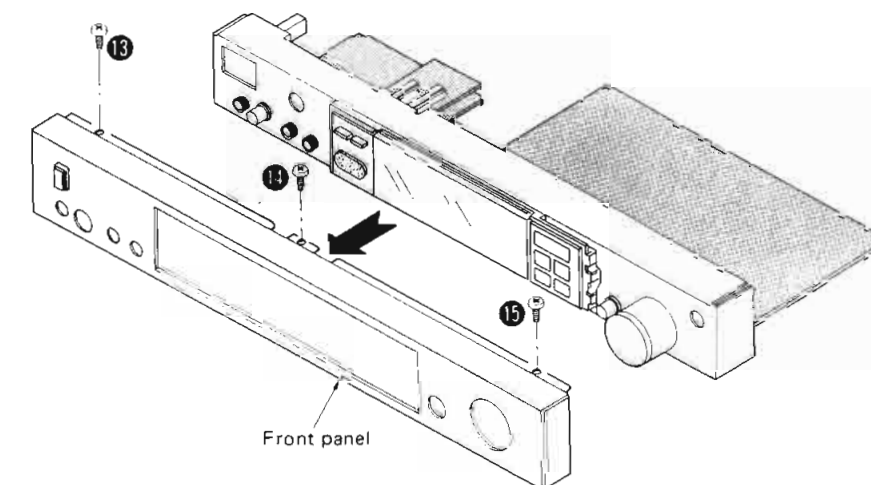

Fig. 3
- Remove the 3 setscrews (Fig. 3 : ⑬ ~ ⑮) of the front panel.
- Pull out the front panel with care not to scratch the knobs. (See Fig. 3.)